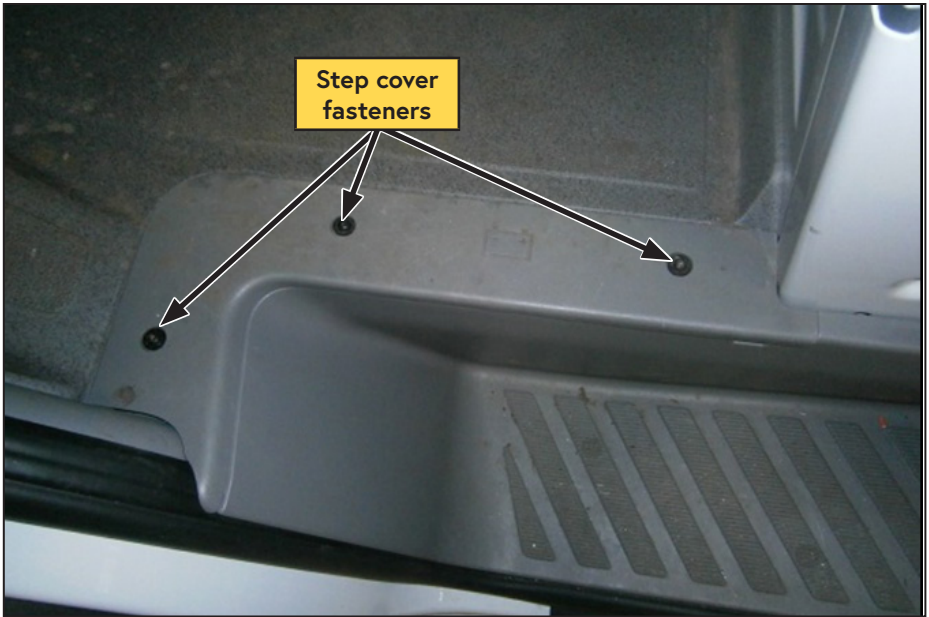

Figure 46 — Remove step cover and mat
- Remove the driver side step cover and floor mat (Figure 46).